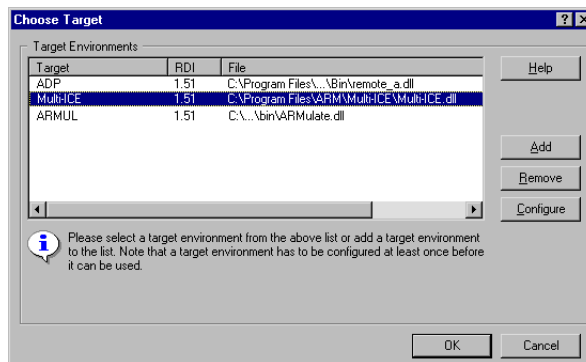

Figure 3-5 Select Multi-ICE
2. Configure the debugger to use Multi-ICE. See Figure 3-5. For more details on configuration, refer to the Multi-ICE documentation.